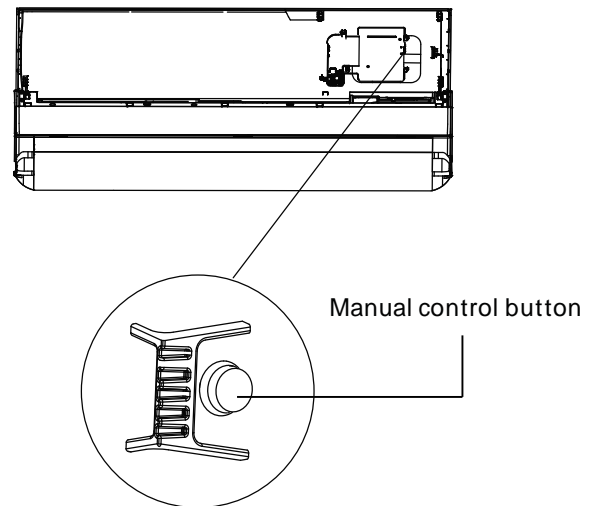

Fig. 8.1
2. The MANUAL CONTROL button is located on the right-hand side of the display box. Press it two times to select the COOL function. See Fig.8.1